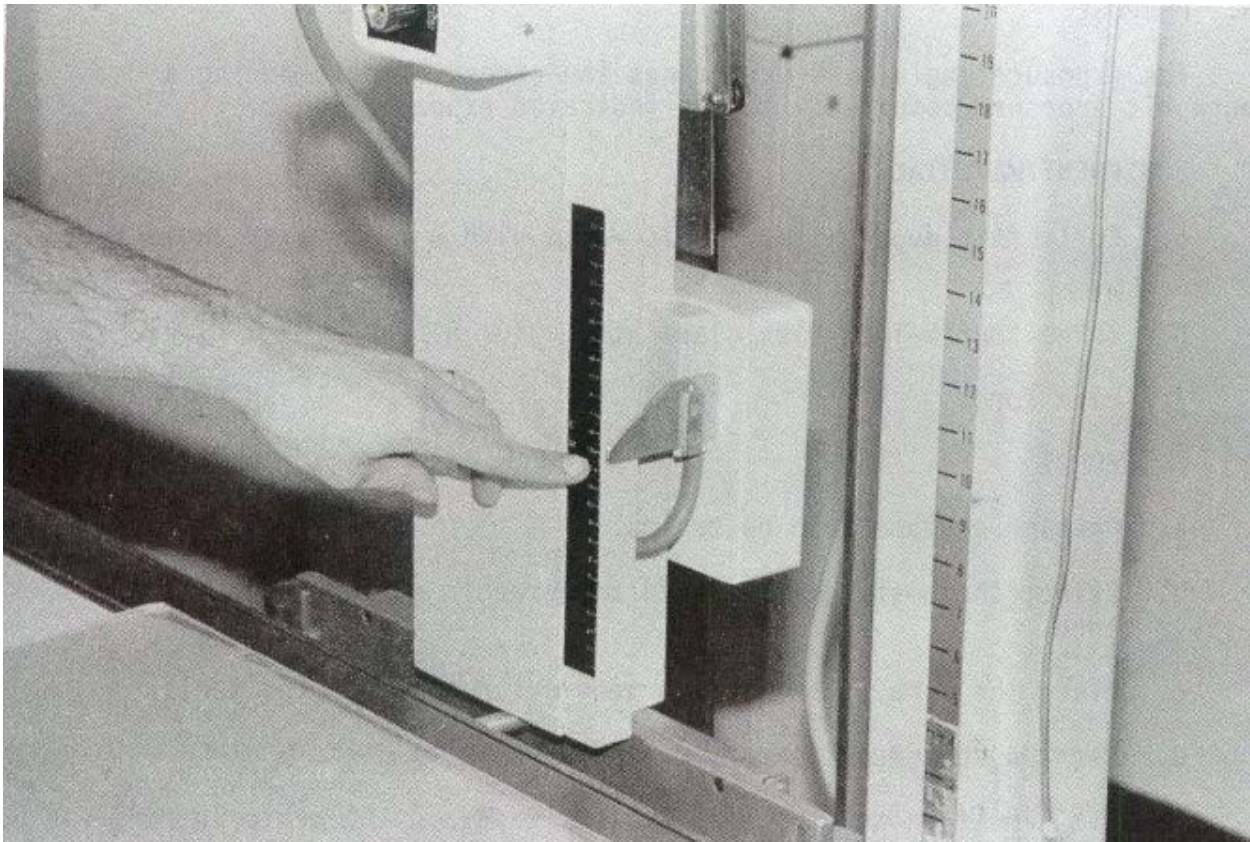

Figure 6-3. Select the cut level of 12.5 cm.
- (1) 60 kVp.
- (2) 50 mAs, approximately.
- h. Select the cut level of 12.5 cm (see figure 6-3).